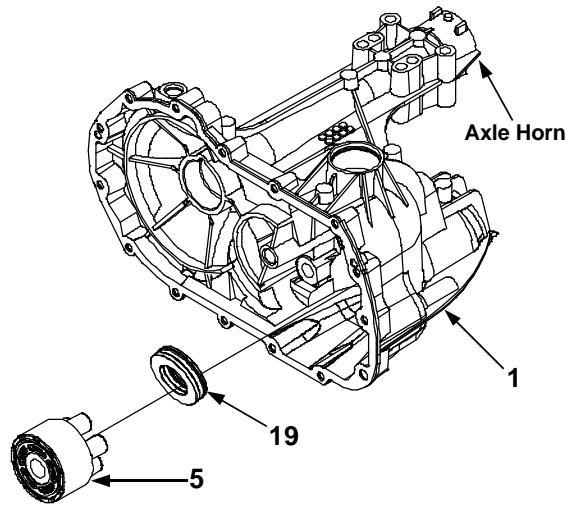

Figure 22
20. **(See Fig. 22)** Remove the motor cylinder block assembly (5) from the housing (1).
21. Disassemble the motor cylinder block assembly (5). Check each piston for proper operation by pressing the pistons in and releasing them in the block bore. Disassemble the motor cylinder block. Check for piston/block wear in the cylinder bore. Inspect
1. **(See Fig. 22)** Turn the housing (1) so the axle horn is pointing down. This will assist in the installation of the thrust bearing assembly (19) keeping it in the bearing cavity during installation of the center section assembly.
2. Insert the thrust bearing (19) in the housing (1). NOTE: Place the thin race of the bearing towards the housing bearing cavity. The